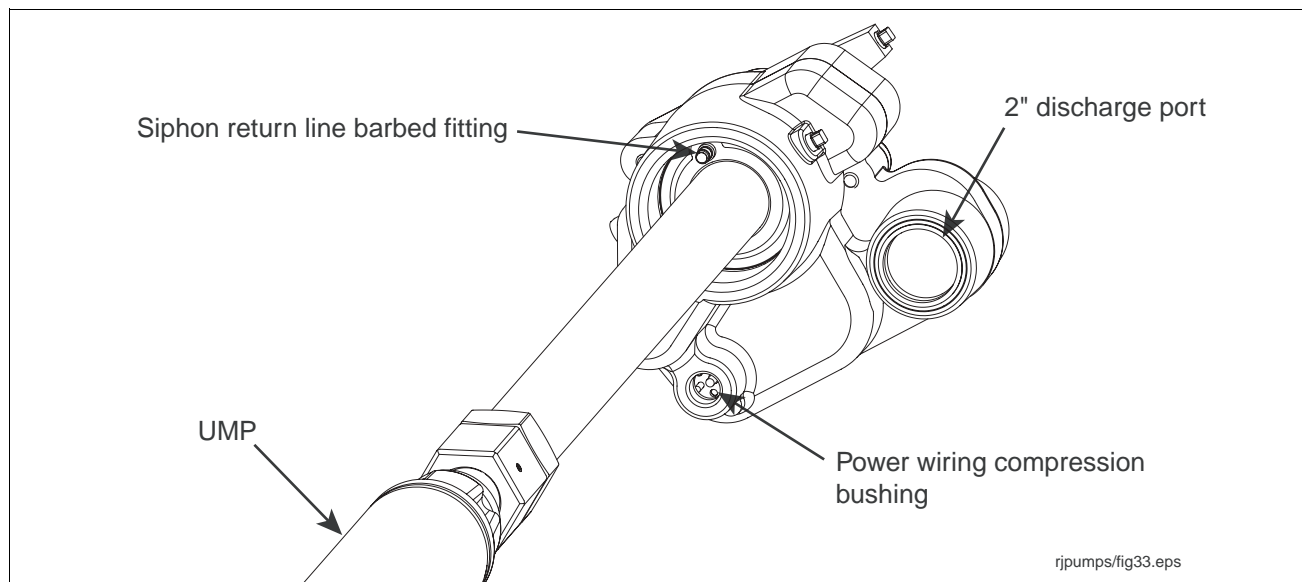

Figure 12. Locating return line fitting on packer
- Attach return line tubing to barbed fitting in base of packer and secure with a clamp (see Figure 12).